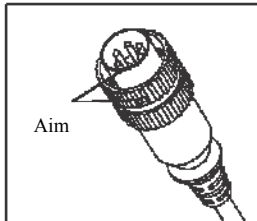

Figure 1
A. Aim the indication point of the soldering handle knob towards the corresponding point of the plug. See Figure 1.